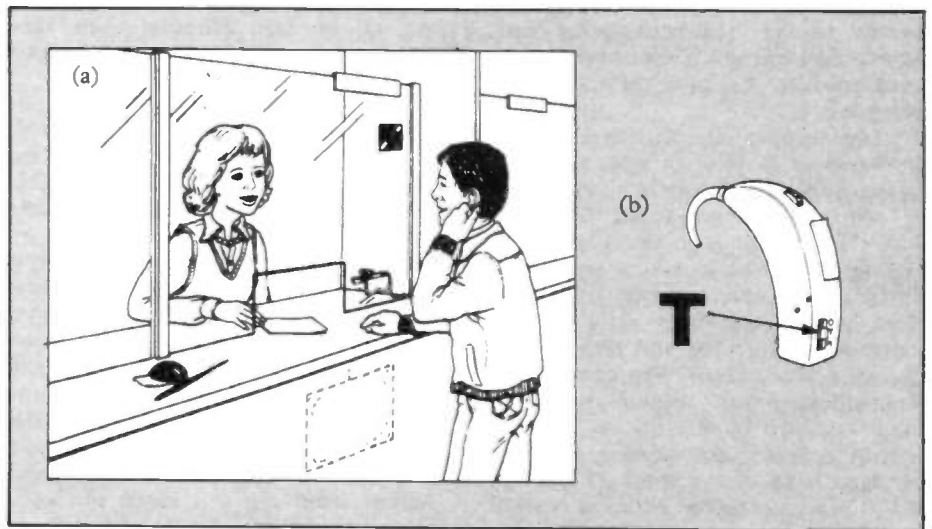

Figure 2a. Using the Across the Counter Communication Aid. Figure 2b. Operation of the M/T switch on a standard hearing aid.
switched on the whole time as it does not interfere with normal counter service. Induction loop availability is denoted by displaying the R.N.I.D. Induction Loop sign, see Photo 2. Operation of the system is illustrated in Figures 2a and 2b, the hearing aid user is alerted to the across the counter communication aid by the induction loop sign, and switches their hearing aid to the 'Telecoil' (T) position. From then on the system is 'transparent' in operation to both the customer and counter staff. After completing the enquiry or transaction, the hearing aid user simply switches their hearing aid back to the normal 'Microphone' (M) position.